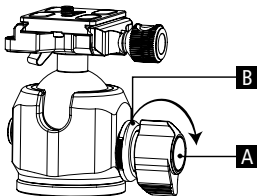
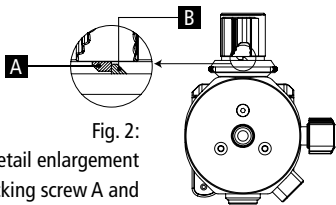

Fig. 1
Fig. 2:
2. Loosen the main locking screw A (Fig. 1) and carefully swivel the camera platform until you have found the desired movement sensitivity.
3. Then pull out the damping button B (Fig. 1) and turn it clockwise until the two stoppers meet (Fig. 2).
1. Pull out the damping button [6] (Fig. 1) and release it when it is turned anti-clockwise to the corresponding position.
2. Turn the main locking screw [7] anti-clockwise (Fig. 1) as far as the stop on the damping button [6] (Fig. 3) to completely release and move the ball.
1. Remove the wrench that is magnetically held in the center column (Fig. 1).
2. Align and rotate with the screw rotation (Fig. 2).